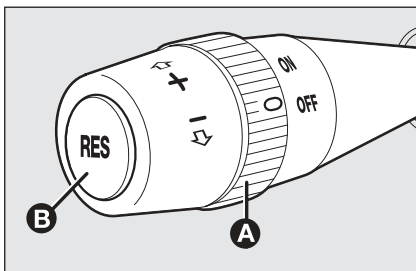

fig. 78
Turn knurled ring **A**-fig. 78 to **ON**.
- turn the knurled ring **A**-fig. 78 to **ON** and press the accelerator pedal to the required speed;
- press the RES button **B**-fig. 78.
Turn the ring **A-fig. 78** to **OFF** or the ignition key to **STOP**. The device is automatically deactivated also in one of the following cases: